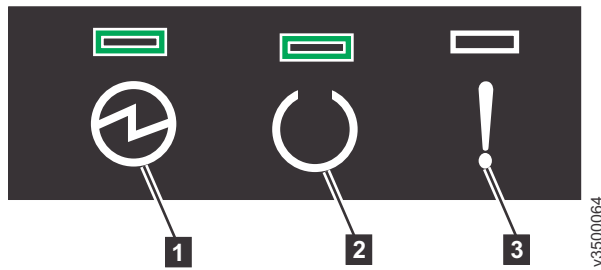

Figure 25. Node canister LEDs
- From the rear of the control enclosure, check the LEDs on each node canister (see Figure 25).